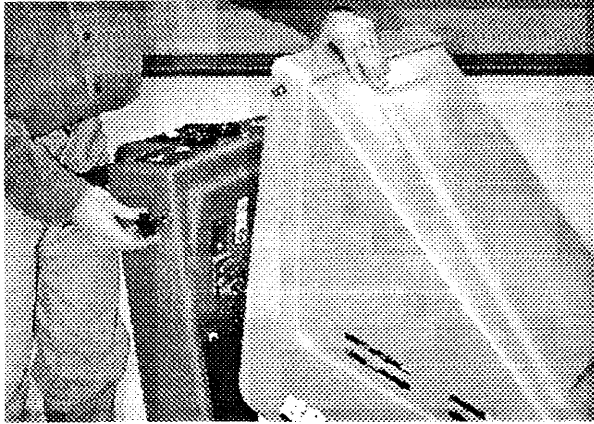

Fig. 9.
- Remove hood to access battery compartment. (Fig. 9)